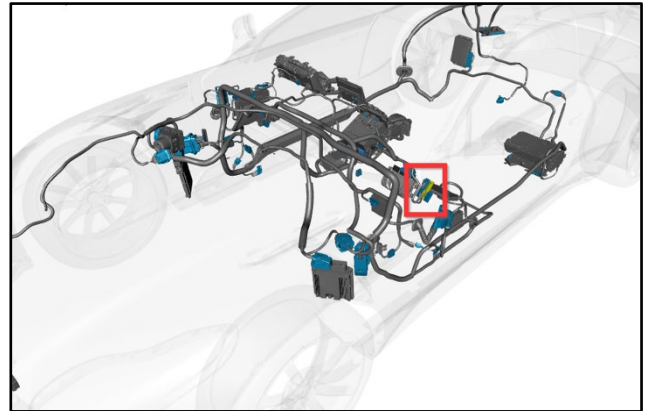

Figure 18
8. **HMI CAN** – This header is in the instrument panel next to the DRVU (refer to Figure 18).